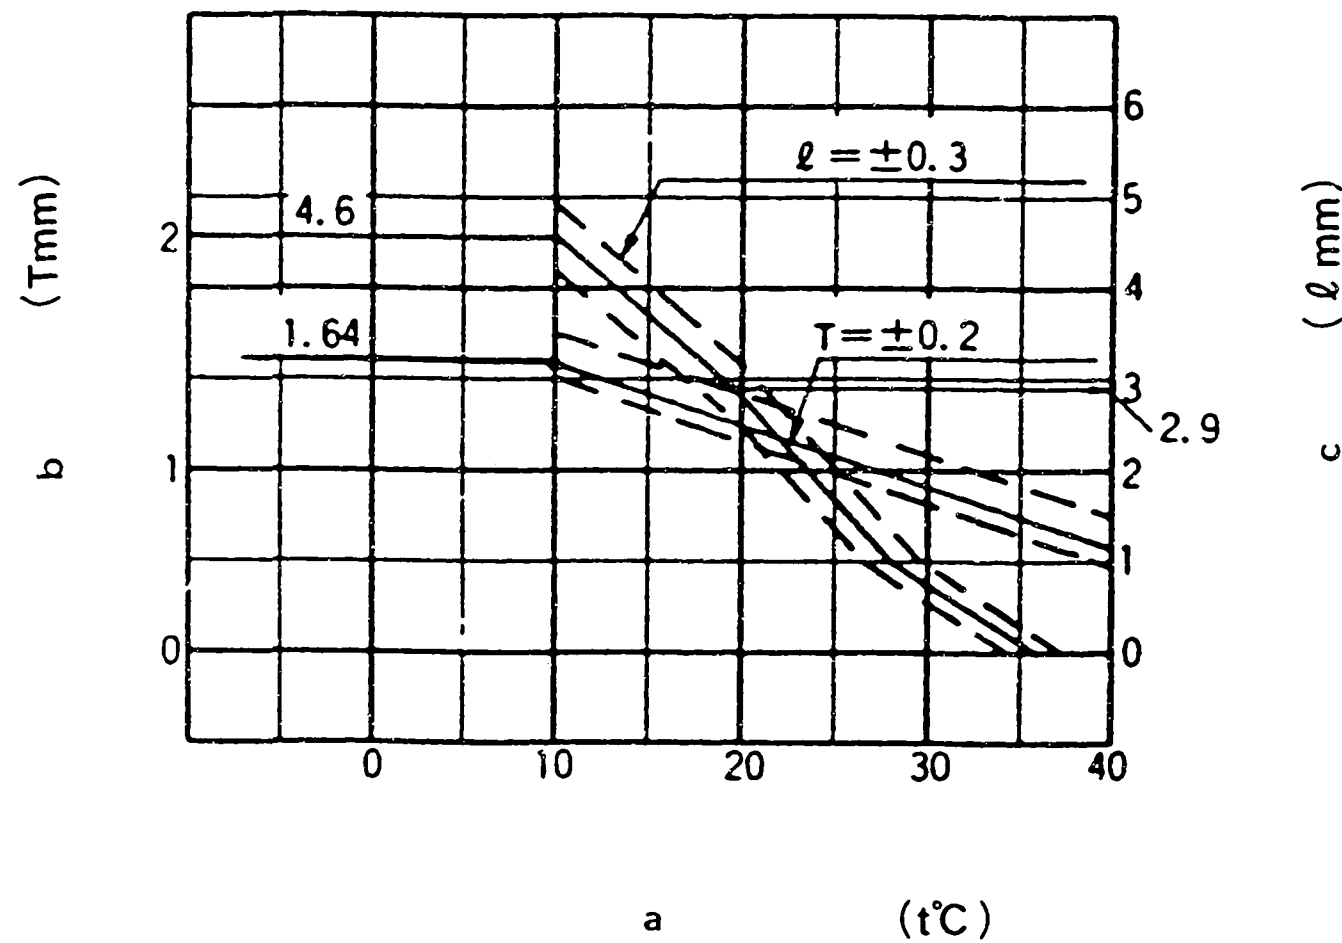

Figure 39
- 1) Calculate the timer stroke from Fig. 39 according to the atmospheric temperature at the time of adjustment.
- 1) Calculate the block gauge dimension  $l \pm 0.05$  mm from (Fig. 39) according to the atmospheric temperature at the time of adjustment.